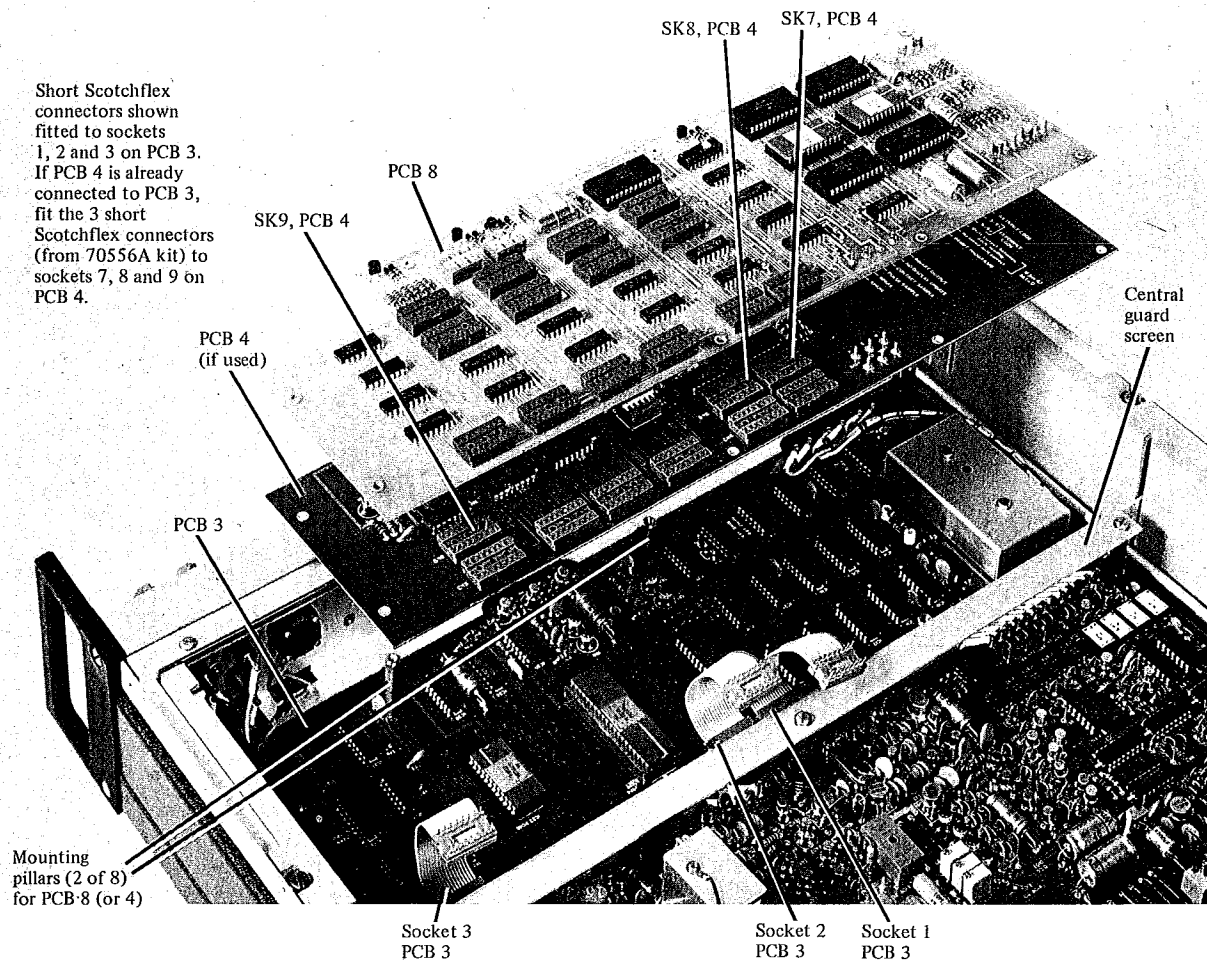

Fig. 2 Fitting PCB 8 (and PCB 4 if required) to the instrument
3. Remove the central guard screen (Fig. 2).
5. Fit the 3 short Scotchflex connectors to either sockets 1, 2 and 3 on pcb 3 (such that the cables point toward the front of the instrument) or, if pcb 4 is fitted, to sockets 7, 8 and 9 on pcb 4. See Figs 2 and 4 (or 5).